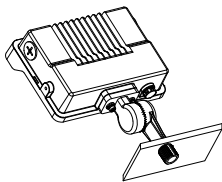

Fig. 1
1. Secure the fixture to a 1/2 NPT hole in the junction box or landscape post as shown in Fig. 1.